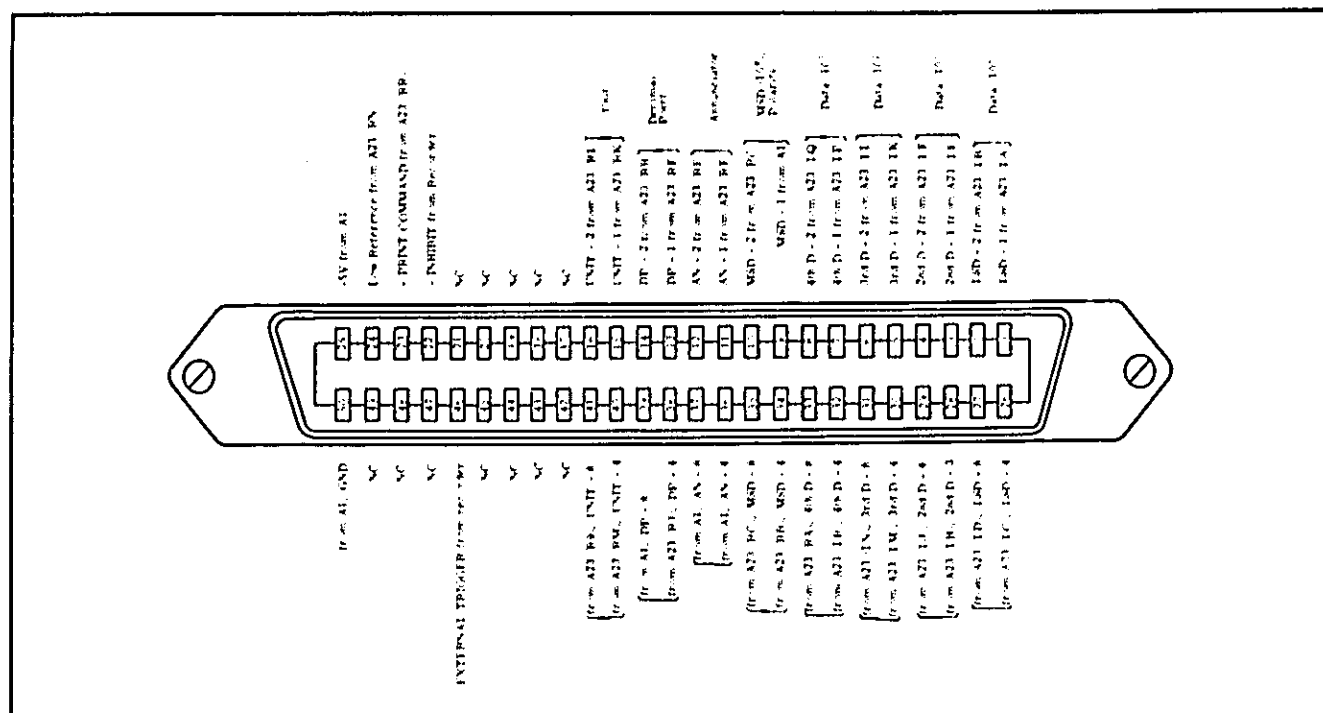

Figure 3-12. Connector Pins and Signals (OPT. 002).
- d. Pin connections for option 002 and recorder are shown in Figure 3-12.